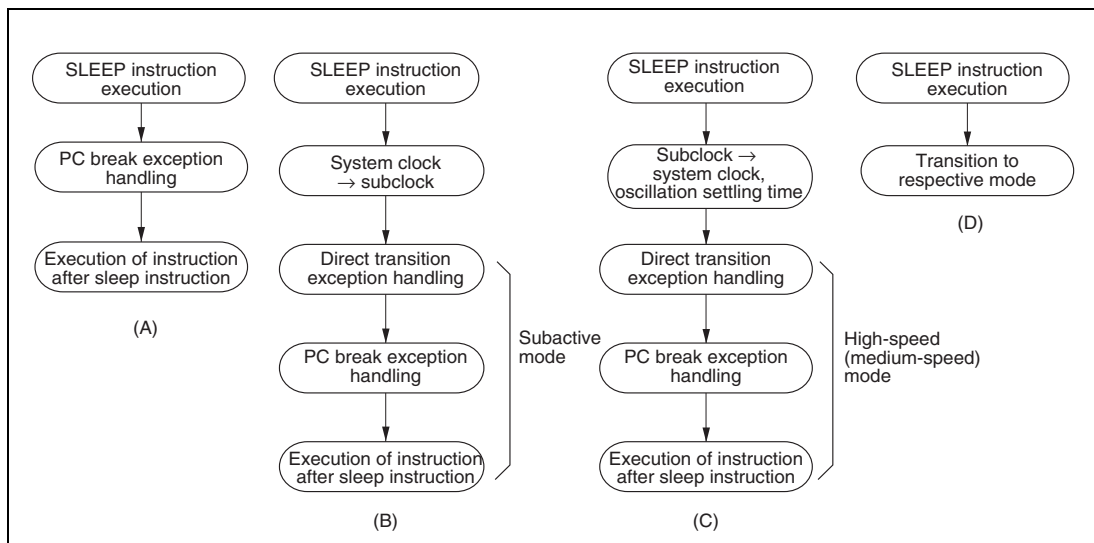

Figure 6.2 Operation in Power-Down Mode Transitions
- (1) When the SLEEP instruction causes a transition from high-speed (medium-speed) mode to sleep mode, or from subactive mode to subsleep mode:
After execution of the SLEEP instruction, a transition is not made to sleep mode or subsleep mode, and PC break interrupt handling is executed. After execution of PC break interrupt handling, the instruction at the address after the SLEEP instruction is executed (figure 6.2 (A)).
- (2) When the SLEEP instruction causes a transition from high-speed (medium-speed) mode to subactive mode:
After execution of the SLEEP instruction, a transition is made to subactive mode via direct transition exception handling. After the transition, PC break interrupt handling is executed, then the instruction at the address after the SLEEP instruction is executed (figure 6.2 (B)).
- (3) When the SLEEP instruction causes a transition from subactive mode to high-speed (medium-speed) mode:
After execution of the SLEEP instruction, and following the clock oscillation settling time, a transition is made to high-speed (medium-speed) mode via direct transition exception handling. After the transition, PC break interrupt handling is executed, then the instruction at the address after the SLEEP instruction is executed (figure 6.2 (C)).
- (4) When the SLEEP instruction causes a transition to software standby mode or watch mode:
After execution of the SLEEP instruction, a transition is made to the respective mode, and PC break interrupt handling is not executed. However, the CMFA or CMFB flag is set (figure 6.2 (D)).